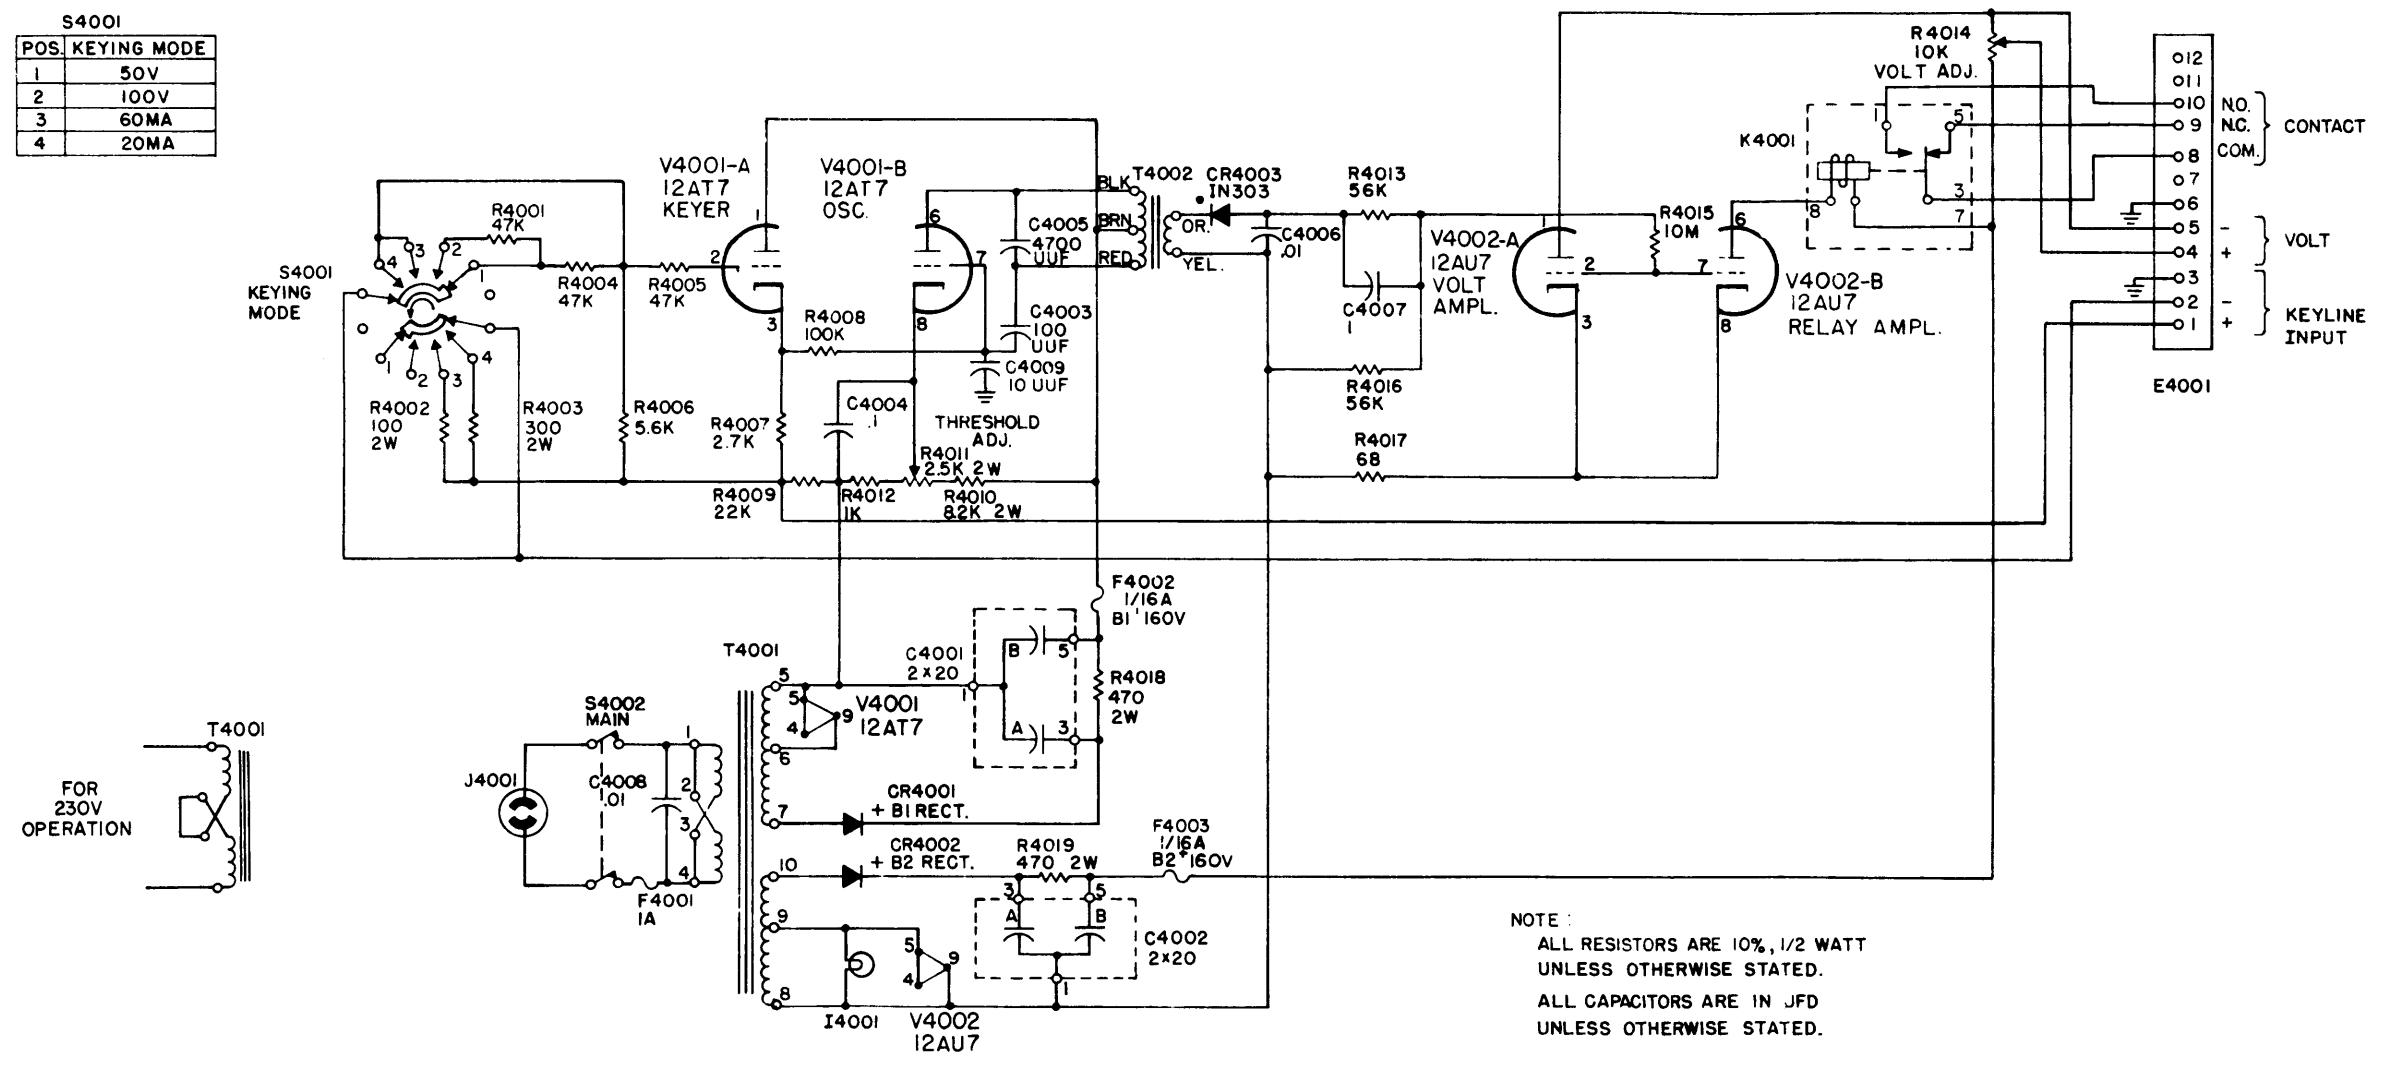
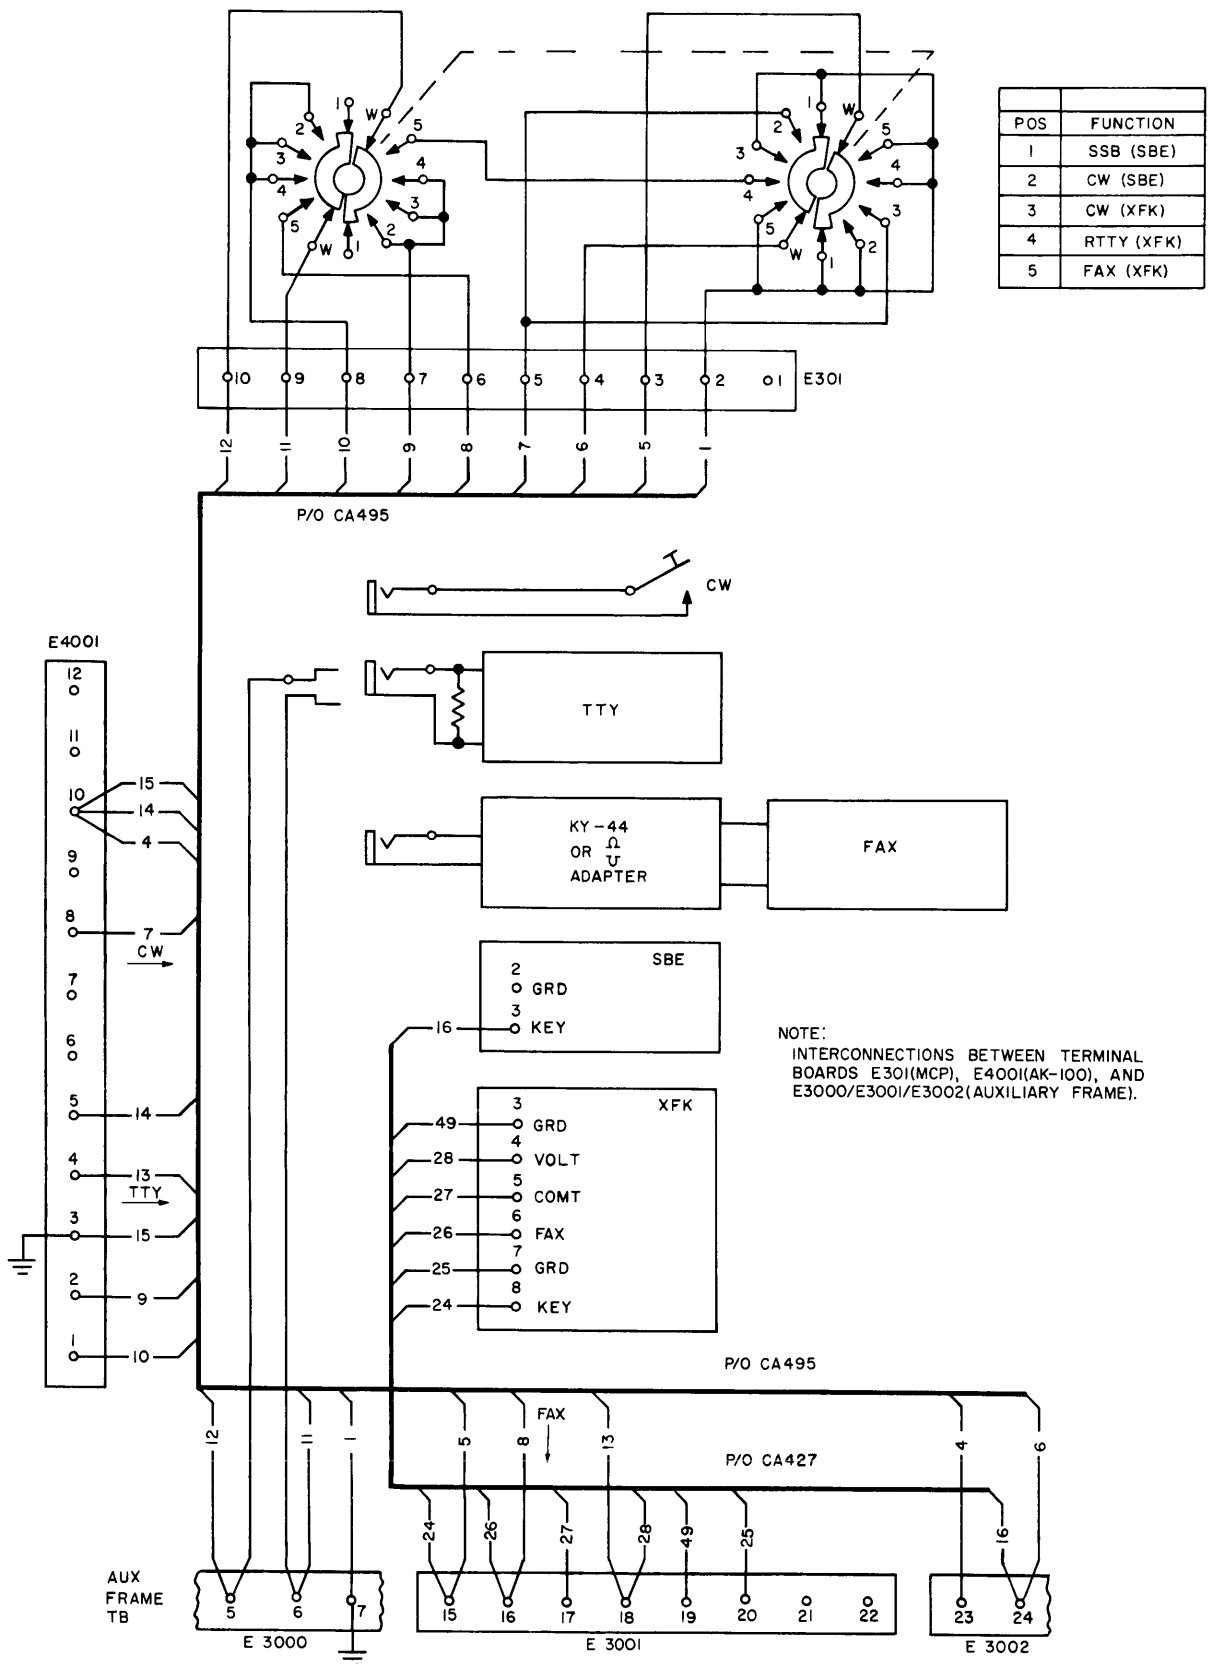

Figure II-7-4-5. Schematic Diagram, ISK
Figure II-7-4-6. Partial Wiring Diagram, Auxiliary Frame Chassis for Non-Synthesized GPT-10K
(6) **SWITCH S305 - MODE.** - MCP-1 is like MCP-1 except for the addition of the MODE switch. As shown by the wiring diagram, figure II-7-4-6, signals of various types are routed via the MODE switch as follows:
d. **ISOLATION KEYER AK-100** (See figure II-7-4-5). - The ISK is an electronic keyer that functionally replaces the well-known relay keyer in RATT lines at transmitter sites. In figure II-7-4-5, terminal E4001, pins 1 and 2, receive teletype mark-space signals or CW dot-dash signals. The path of the signals from their source to E4001 is shown in figure II-7-4-6.